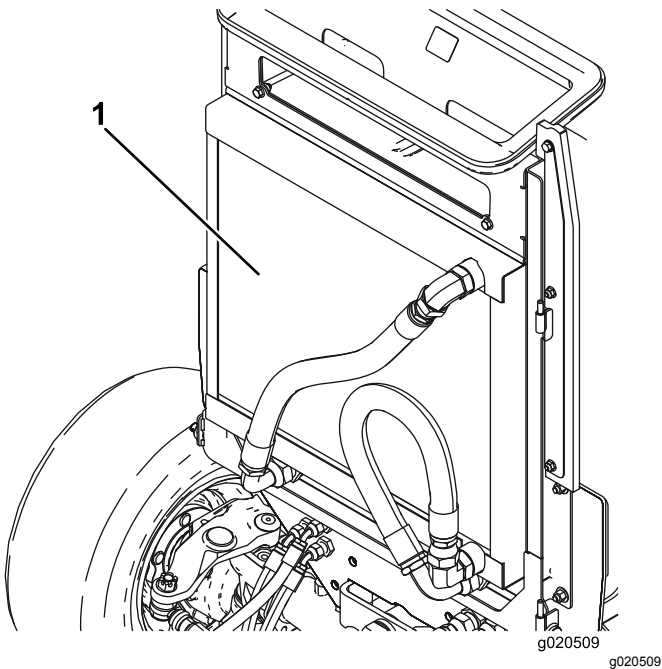

Figure 79
3. Thoroughly clean both sides of the oil cooler and the radiator (Figure 79) with compressed air. Start from the front and blow the debris out towards the back. Then clean from the back side and blow towards the front. Repeat procedure several times until all chaff and debris is removed.